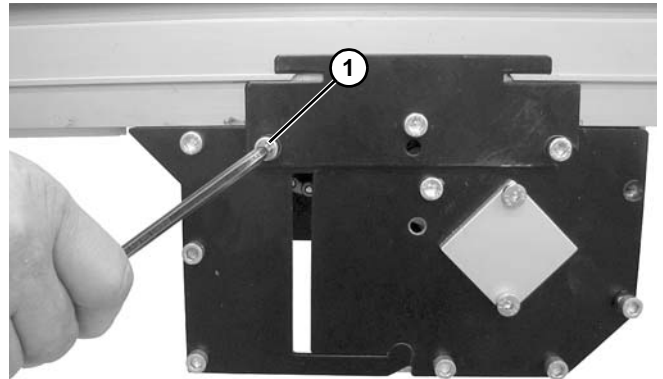

**Figure 51**
6. Remove head plate (**Figure 51, item 1**) and spindle (**Figure 51, item 2**).